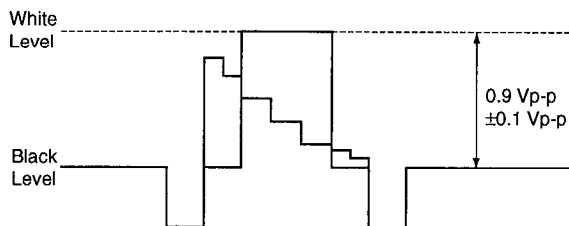

Figure 4
5. Adjust SUB-CONTRAST control (R327) to obtain 0.9 Vp-p from white level to black level. (See figure 4)